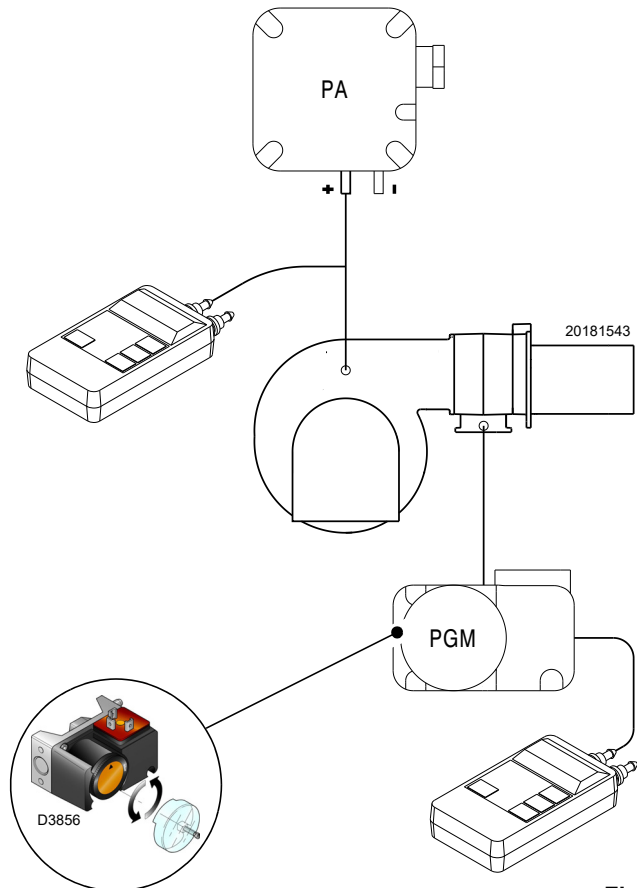

Fig. 42
- Adjust the maximum gas pressure switch (Fig. 42, page 32) to the end of the scale.
Adjust the maximum gas pressure switch (Fig. 42) after making all other burner adjustments with the maximum gas pressure switch set to the end of the scale.